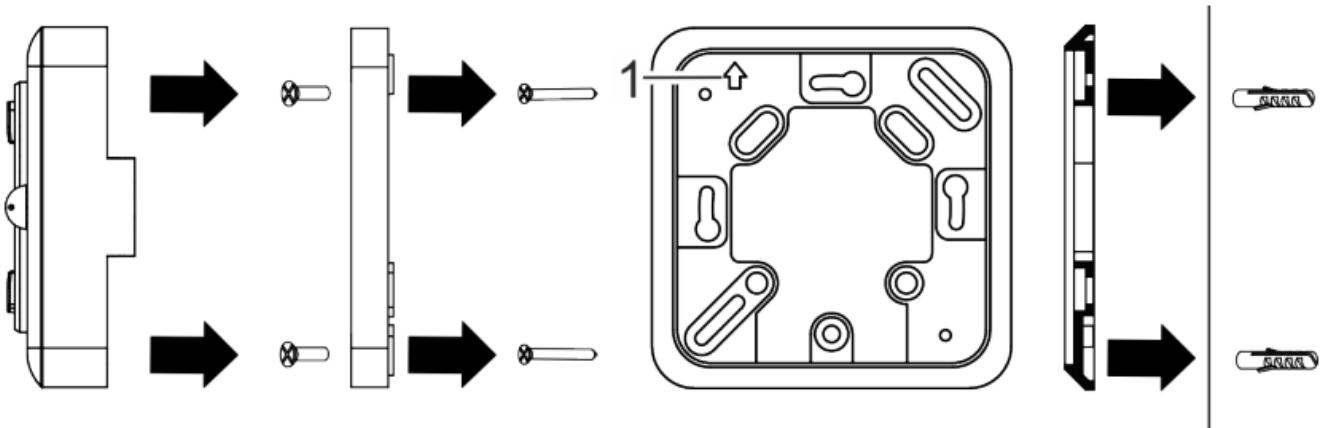

Fig. 6: Installing the housing base on the mounting plate
1. Attach the mounting plate to the flush-mounted socket with screws (3.5 x 25 mm) (Fig. 6).
The arrow (Fig. 6/1) on the mounting plate should point upwards.
7. Attach the housing base of the device to the mounting plate with the screws (3 x 6 mm) (Fig. 6).